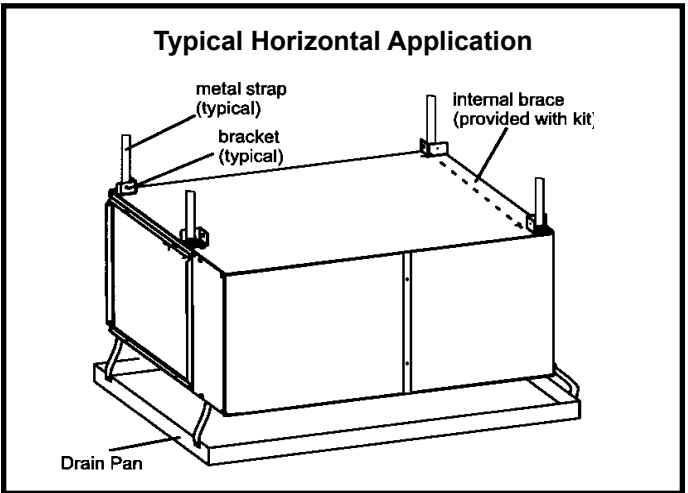
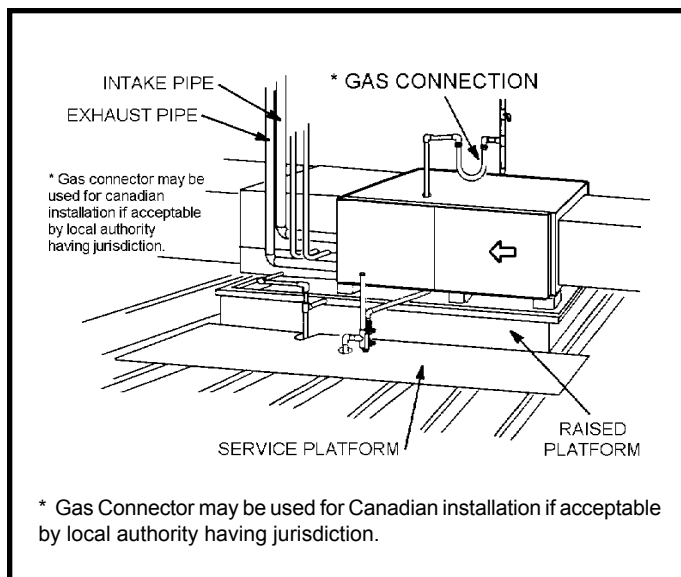

Figure 12
Figure 13
This furnace may be installed in either an attic or a crawlspace. Either suspend the furnace from roof rafters or floor joists, as shown in Figure 12 or install the furnace on a platform, as shown in Figure 13. A horizontal suspension kit (51W10) may be ordered or use equivalent.
2. Construct a raised wooden frame and cover frame with a plywood sheet. If unit is installed above finished space, fabricate an auxiliary drain pan to be installed under unit. Set unit in drain pan as shown in Figure 13. Leave 8 inches for service clearance below unit for condensate trap, unless trap is installed remotely.
This unit is shipped with vent exhaust / air intake connection at the top cap. See Figure 13. Using parts provided, the furnace may be field modified to have these connections on the right side of the furnace cabinet. See Figure 15 and follow the steps below. For left side venting order kit 87W73.
2. Loosen hose clamps which attach rubber fittings to the white PVC pipes inside the vestibule area, See Figure 13.
3. Loosen the clamp which secures the pipes at the blower deck. See Figure 13.